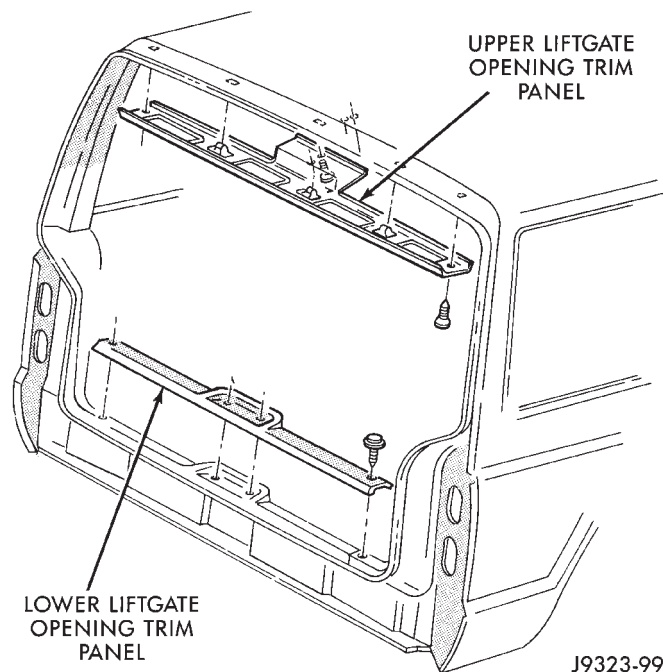

Fig. 12 Liftgate Opening Trim Panels
(6) Remove 5 screws retaining upper liftgate trim panel (Fig. 12).
- (9) Remove liftgate lower trim panel from liftgate opening (Fig. 12).
- (1) Remove liftgate upper trim panel (Fig. 12).
- (3) Install upper liftgate trim panel (Fig. 12).